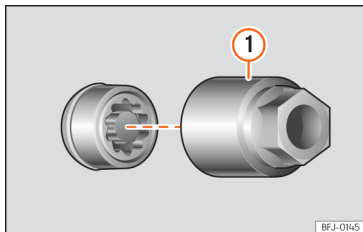

Fig. 245 Anti-theft wheel bolt with cap and adapter.
- Insert the special adapter >>> **Fig. 245** ① (vehicle tools >>> **page 313**) onto the anti-theft wheel bolt and push it on as far as it will go.